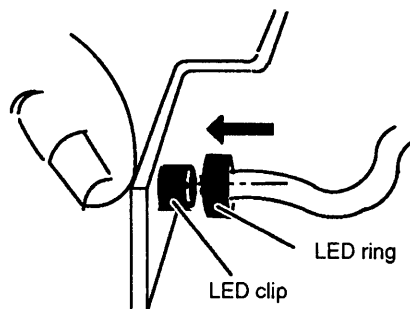

Figure 4-26 Sliding the LED Ring Over the LED Clip
8. While holding the LED end of the cable assembly and the LED clip in position, slide the LED ring over the LED clip to secure it to the tray assembly, as shown in Figure 4-26.